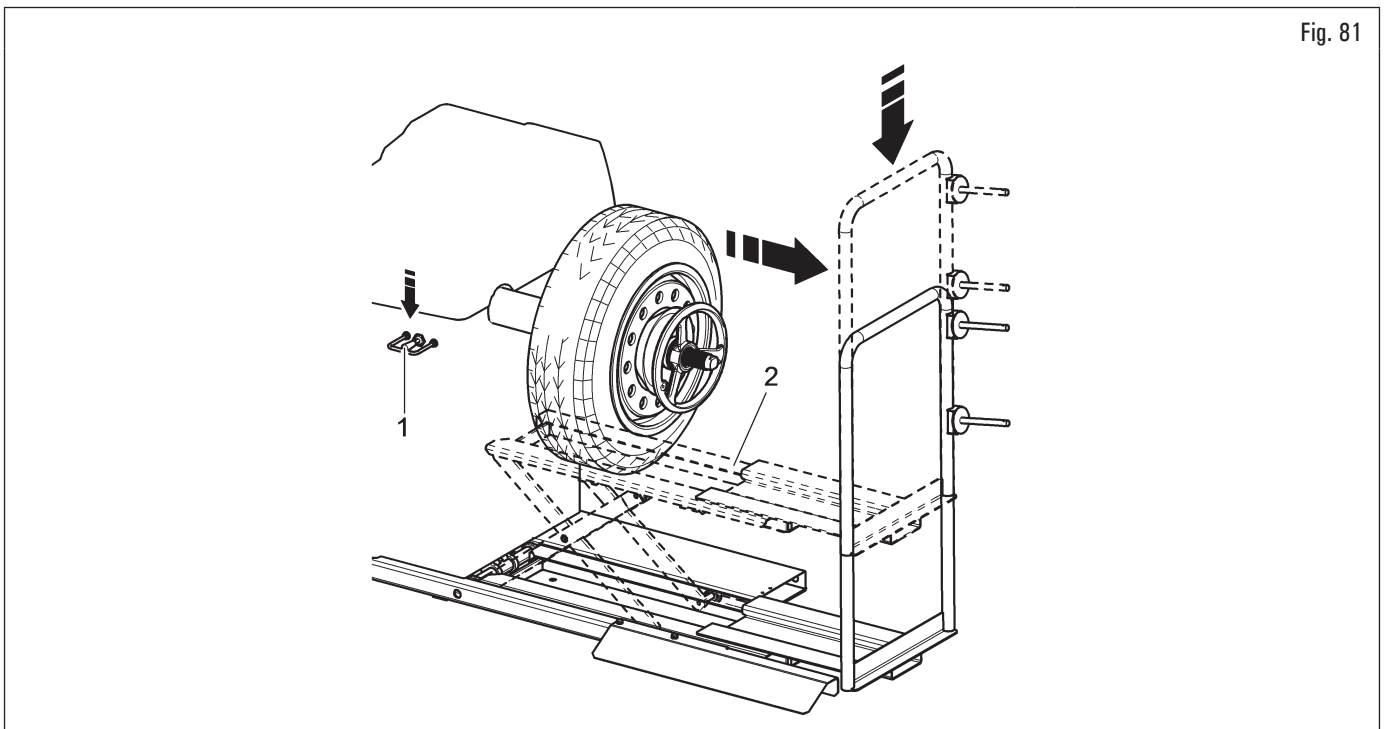

Fig. 81
6. lower the lifting device control (Fig. 81 ref. 1) and then lower the footboard (Fig. 81 ref. 2).